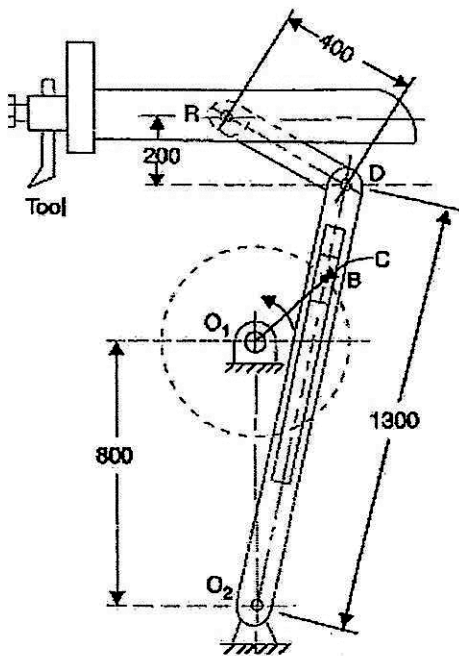

Fig Q. 16 (a)
16. a) Fig. Q. 16 (a) shows a quick return motion mechanism of a shaper. $O_1 O_2 = 800$ mm, $O_1 B = 300$ mm, $O_2 D = 1300$ mm, $DR = 400$ mm, crank makes 45° with the horizontal and it rotates at a constant speed of 40 rpm ccw. Determine the velocity and acceleration of tool and angular velocity and angular acceleration of slotted lever. Also, determine the ratio of time for cutting stroke to time for return stroke.